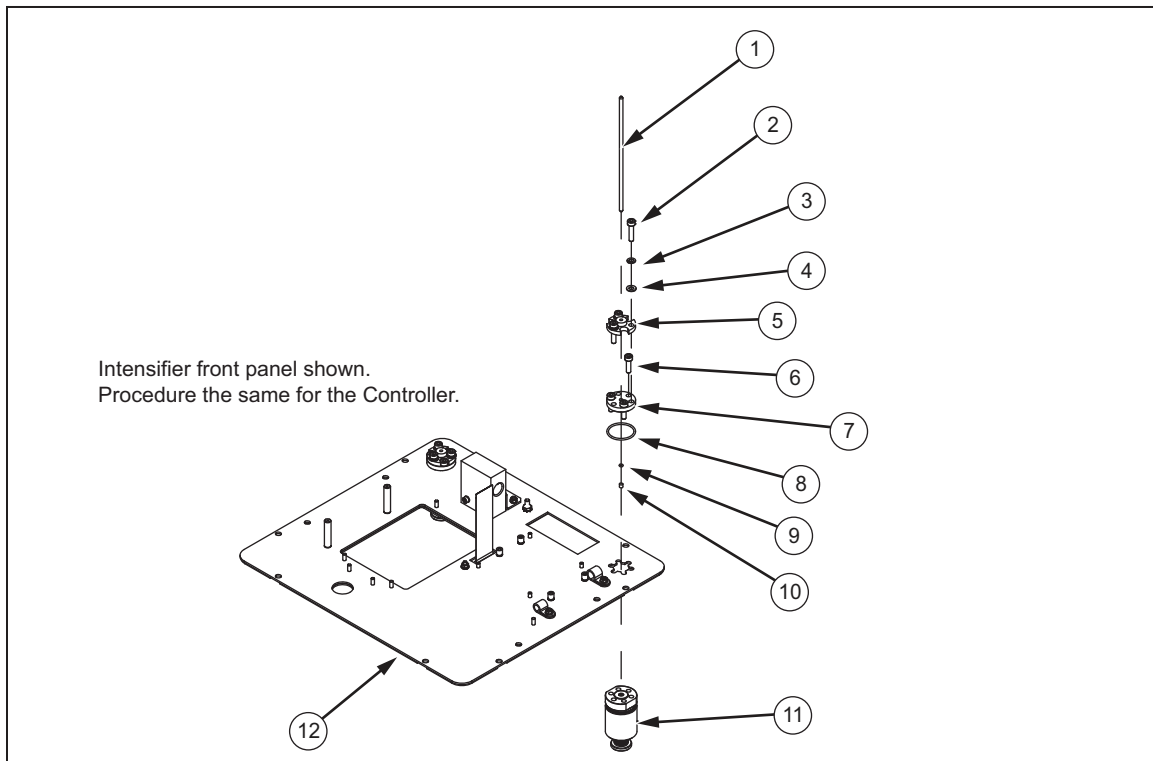

Figure 4-21. Quick-Connect Fitting
Use the instructions below and Figure 4-21 to replace the QC fitting (11).
2. Put the control panel (12) on a flat work surface upside down.
3. Remove the three screws (2) that secure the HM2 collar (5) to the quick connect (11).
4. Remove the three screws (6) that secure the QC adapter (7) to the quick connect (11).
5. Remove the quick connect (11) from the control panel (12).
6. Remove the filter (10) and o-ring (9) from the quick connect (11).
7. Put the filter (10) and o-ring (9) in the new quick connect (11).
9. Position the QC adapter (7) in the control panel (12) and secure it to the quick connect (11) with three screws (6). Tighten the screws in a star shaped pattern. After tightened, torque the screws to 2.3 Nm (20.4 in-lb).
10. Slide the tube (1) through the QC adapter (7) into the quick connect (11) until it stops.